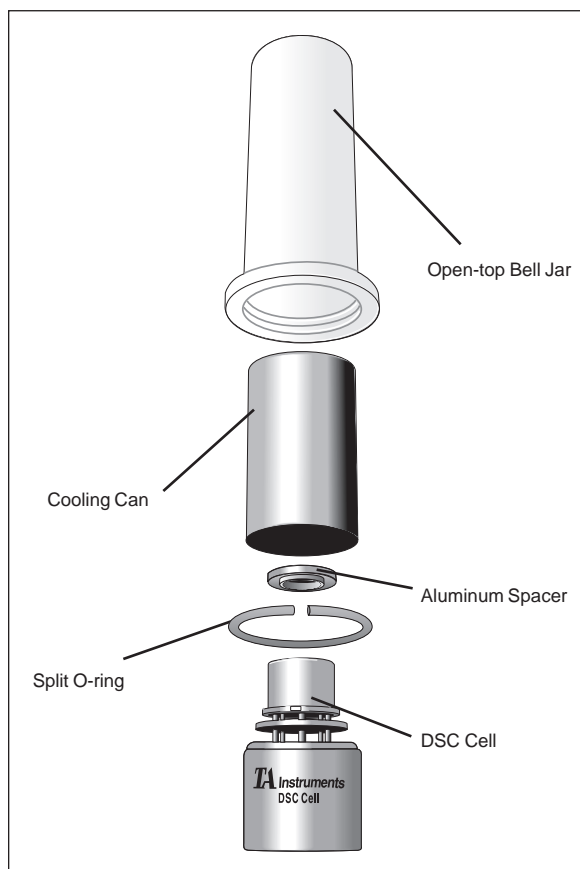

Figure 2.9
3. Place the aluminum spacer on top of the cell as shown in Figure 2.9.